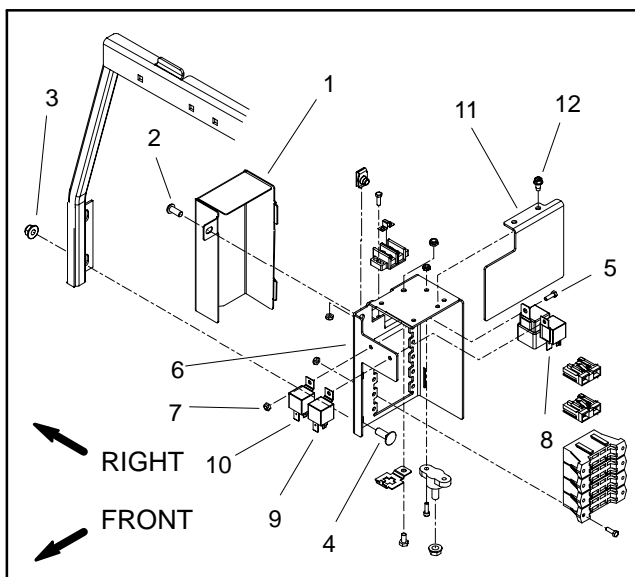
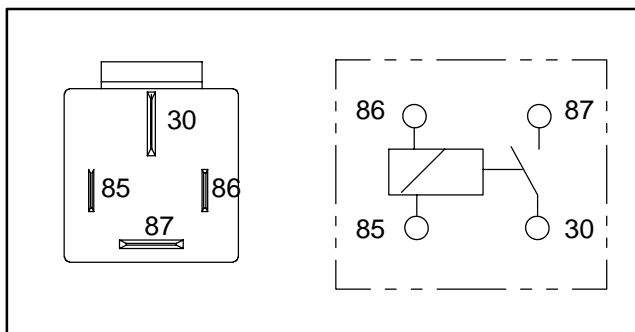

Figure 34
Figure 35
The main power, glow and cab power relays are located at the power center behind the operator seat (Fig. 34). The wire harness is attached to these relays with a four (4) wire connector (Fig. 35).